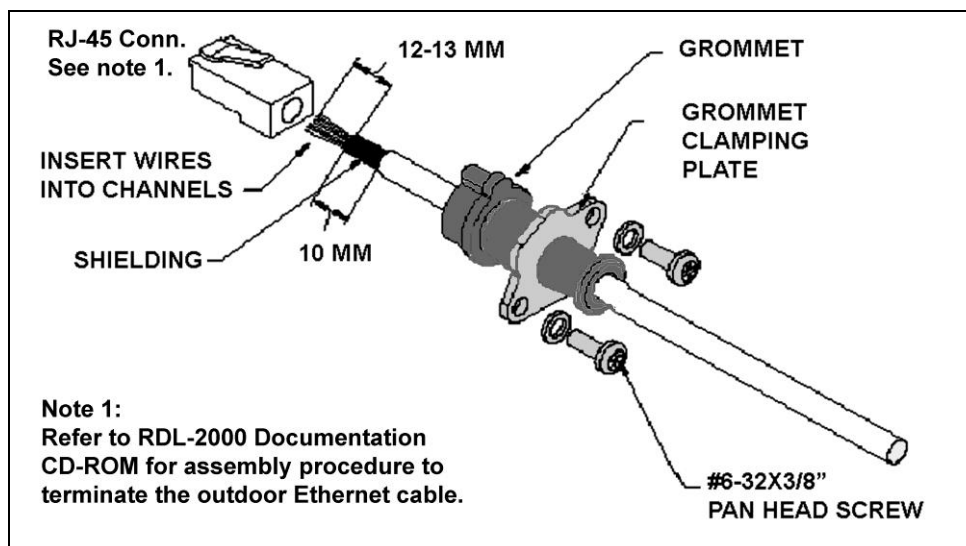

Figure 17: Installation - Ethernet Port Cover Plate & Grommet
- b. Thread the Ethernet cable through the rubber grommet/metal clamping plate combination (see Figure 17). The large end of the grommet should be oriented towards the unterminated end of the cable.